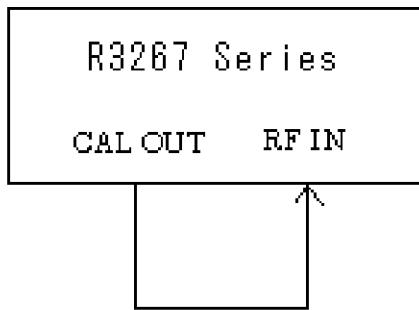

Figure 6-4 Setup of Simplified Performance Check
1. Connect equipment as shown in Figure 6-4.